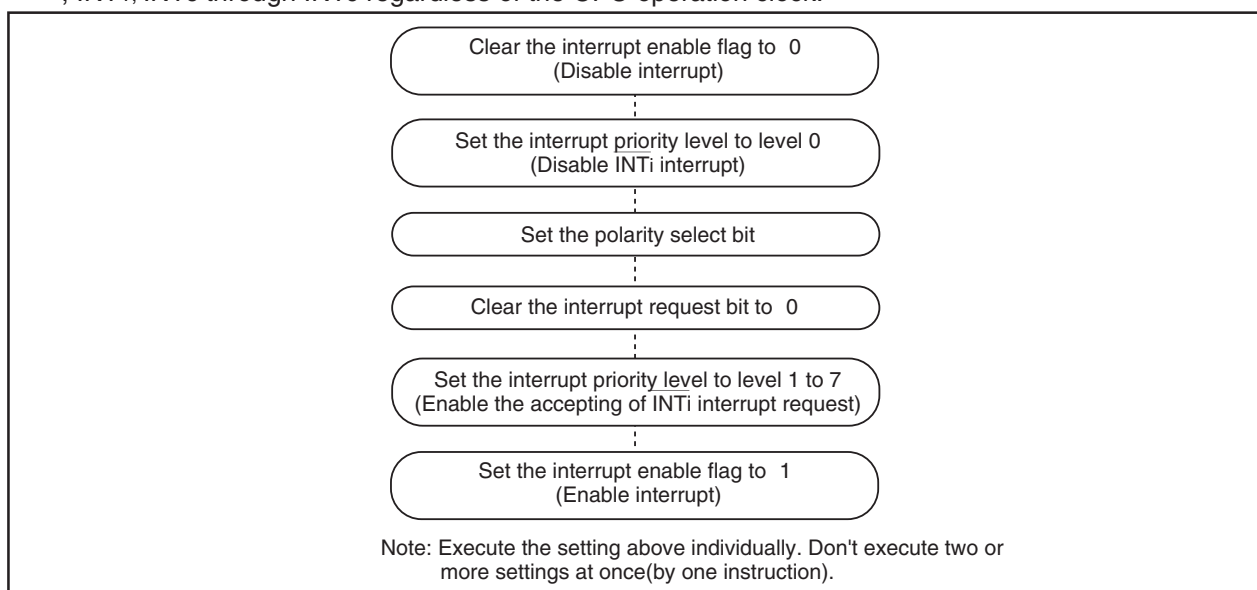

Figure 1.9.13. Switching condition of INT interrupt request
- When the polarity of the INT₀, INT₁, INT₃ through INT₅ pins is changed, the interrupt request bit is sometimes set to “1”. After changing the polarity, set the interrupt request bit to “0”. Figure 1.9.13 shows the procedure for changing the INT interrupt generate factor.
(5) Watchdog timer interrupt
(6) Rewrite the interrupt control register